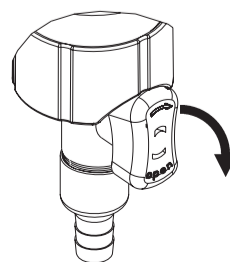

fig. 1
- Bring the ball valve in horizontal position (open) with a 90° turn to the right (fig. 1).